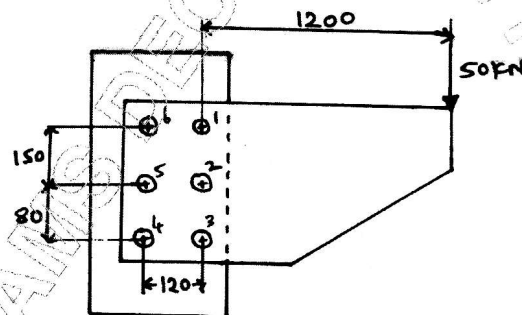

Fig.Q7(b)
b. Determine the diameter of rivet for the joint shown in Fig.Q7(b). The allowable stress in the rivet is 100 N/mm^2 .